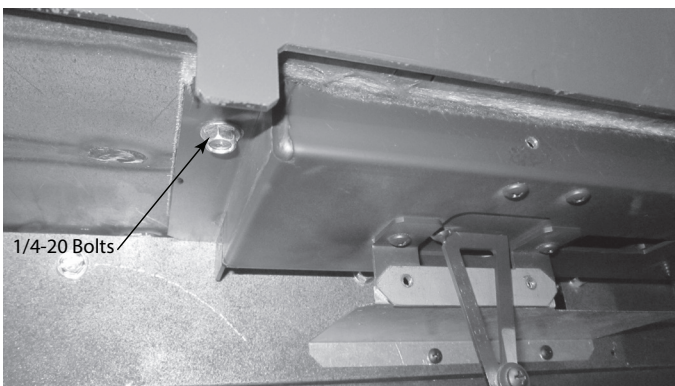

Figure 4.19 Location of Bolts
6. While supporting the air chamber, remove the two (2) 1/4-20 bolts at each end of it. Then pull it down and out the front. See Figures 4.19 & 4.20.